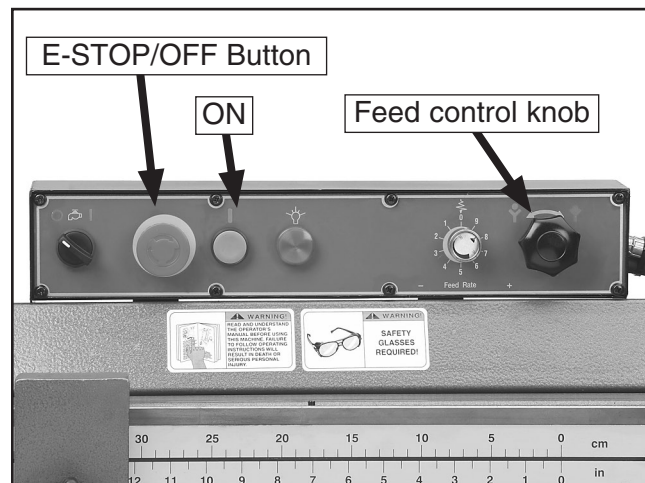

Figure 14. Control panel.
6. Start the bandsaw while keeping your finger near the EMERGENCY STOP/OFF button (**Figure 14**) at all times during the test run. The bandsaw should run smoothly with little or no vibration.